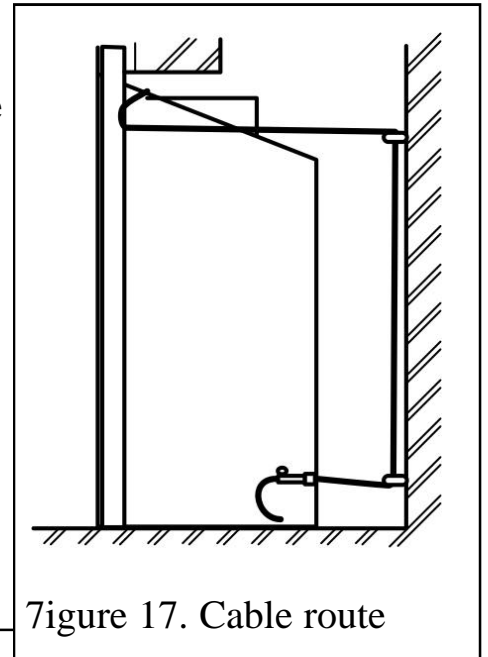

Figure 17. Cable route
6. Thread the cables through the eyebolts. Return the cables through the holes near the bottom of the hotbox back panel (See figure 17) (**For precast or clay block flue systems return the cables through the slotted holes in the side of the hotbox**).